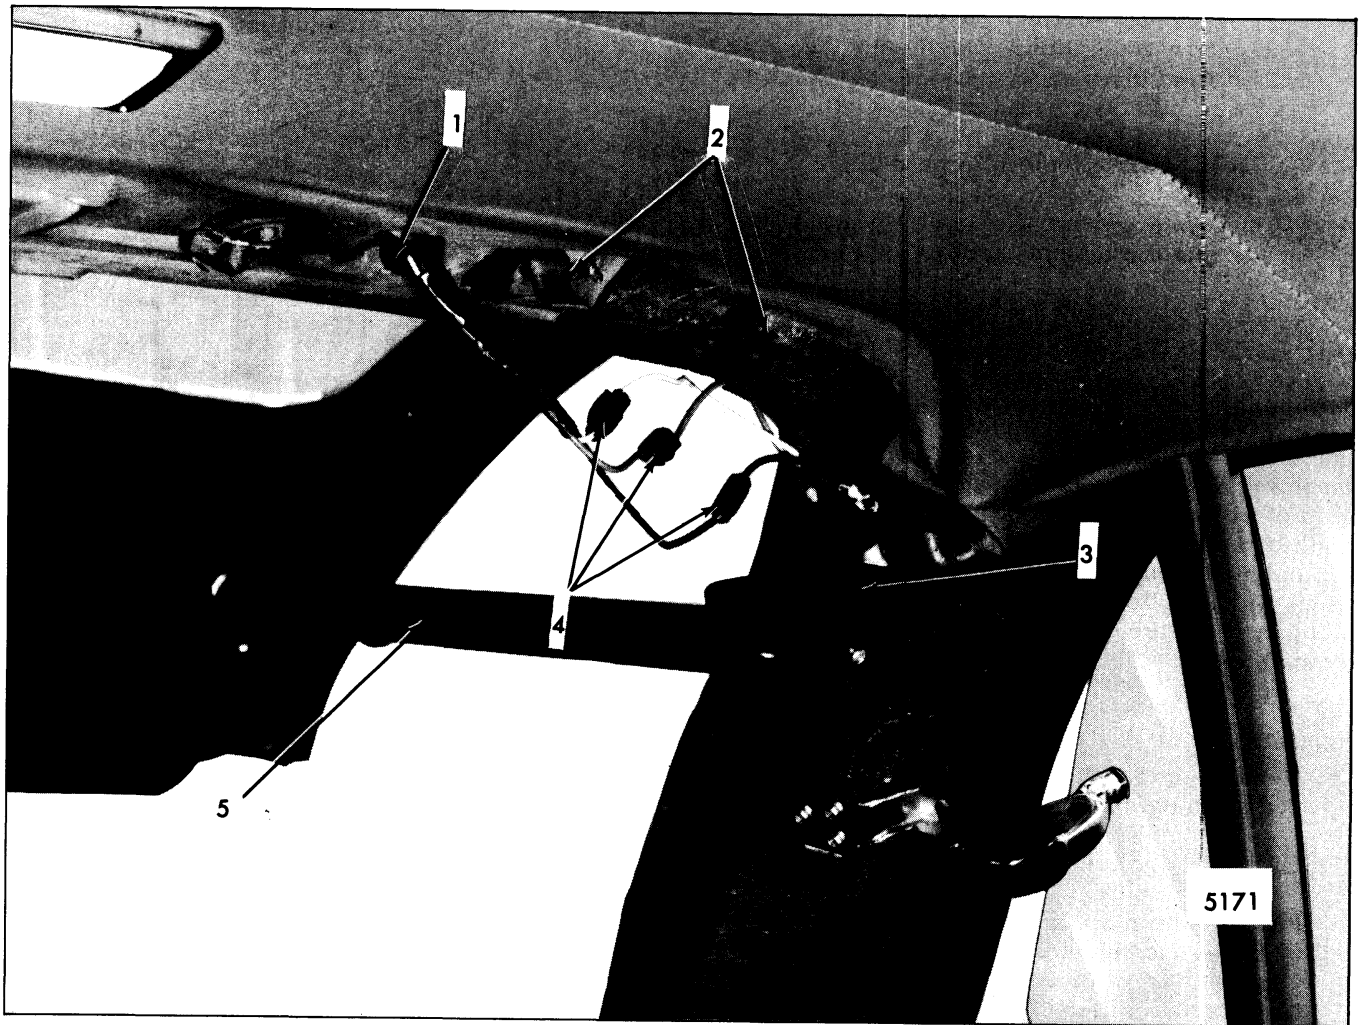

Fig. 7-67-Cut and Splice Tail Gate Harness
**NOTE:** Stagger cuts as shown in Figure 7-67 in order to prevent bulging of harness when wires are rejoined.